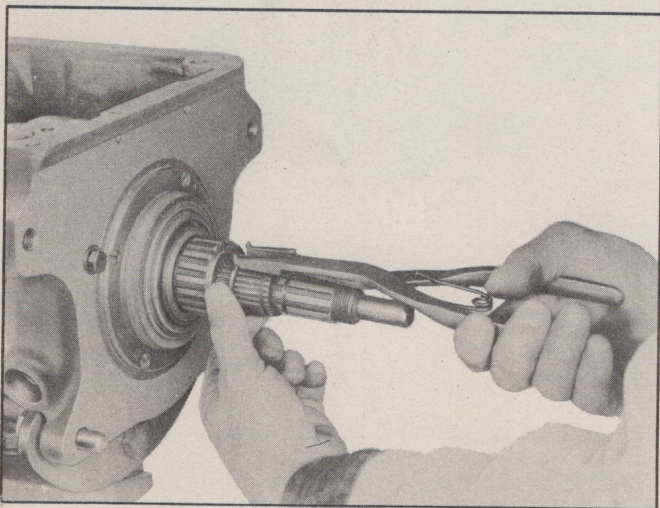

Fig. 297—Installing Front Drive Gear Snap Ring
7. Install snap ring holding thrust washers in place (Fig. 297).